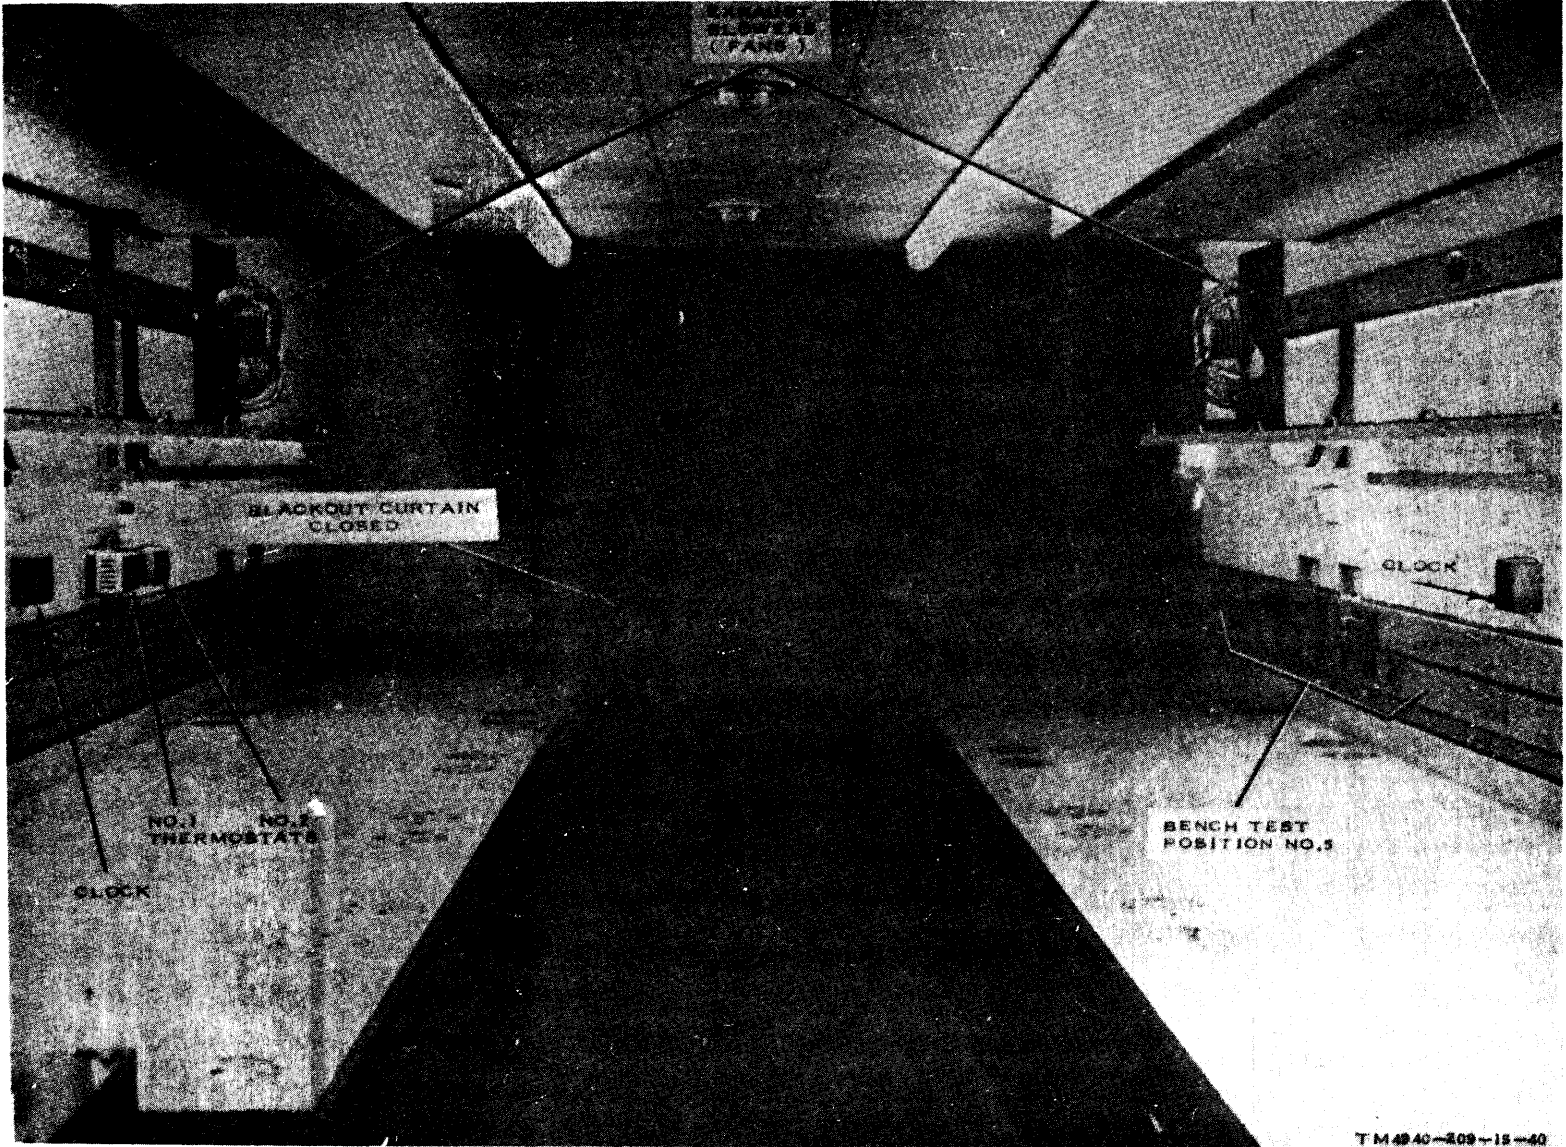

Figure 1.6. AN/ASM-189, configurations B and C, viewed from rear of van, blackout curtain closed.
e. *Exhaust Blowers* (fig. 1-6). Two exhaust blowers are mounted in the rear area of the repair van; one on the curbside wall and one on the roadside wall. One exhaust blower is in the storage van. Each exhaust blower is equipped with an exterior louvered vent to maintain blackout integrity.